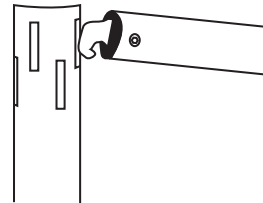

Figure 4
- ③ Attach one end of horizontal drape support to one of the uprights (see Fig. 4).
- ④ Extend or collapse horizontal drape support to proper length.
- ⑤ Attach remaining end of horizontal drape support to other upright.